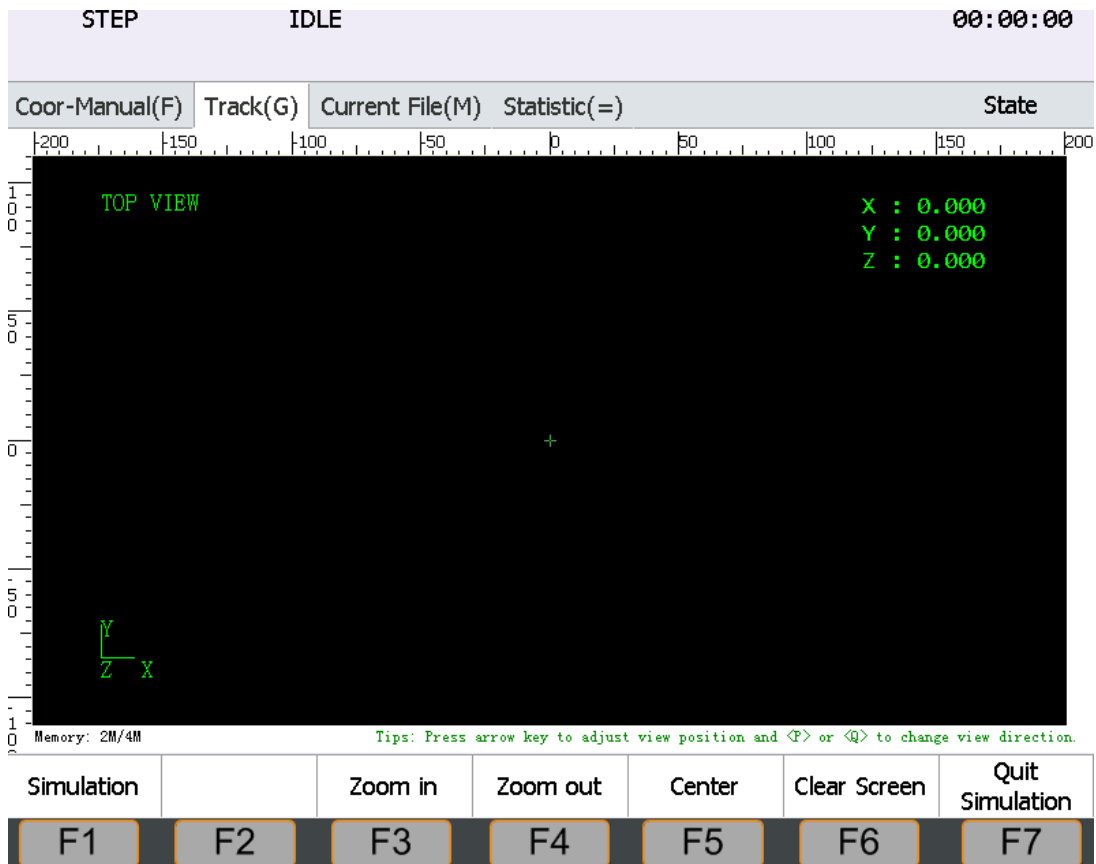

Figure 3-22 Motion track interface
- <State> → <G Track> (see figure 3-22) → < F1 Simulation >.